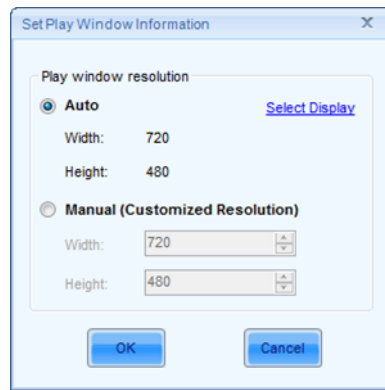

Fig. 11-3 Play window information
- 1) Click  on the interface shown in Fig. 11-3 to enter setting interface of Offline export.